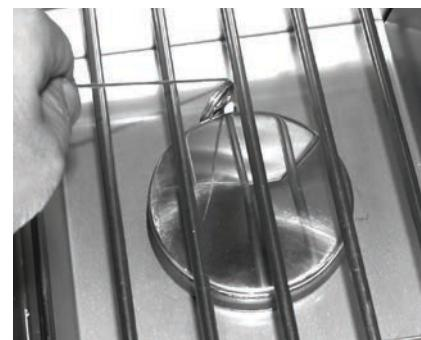

Fig. 23-2 - Manual lighting
2. Insert either a burning long-barrel butane lighter, a burning long-stem match, or a burning match held by a wire extension holder through the cooking grids to the burner (Fig. 23-2). Hold the flame against the edge of the burner.
4. If the burner does not light within five (5) seconds of turning the control knob, **immediately depress the knob and turn the valve to OFF**. WAIT FIVE (5) MINUTES before repeating steps 2 through 4 of the MANUAL LIGHTING instructions.